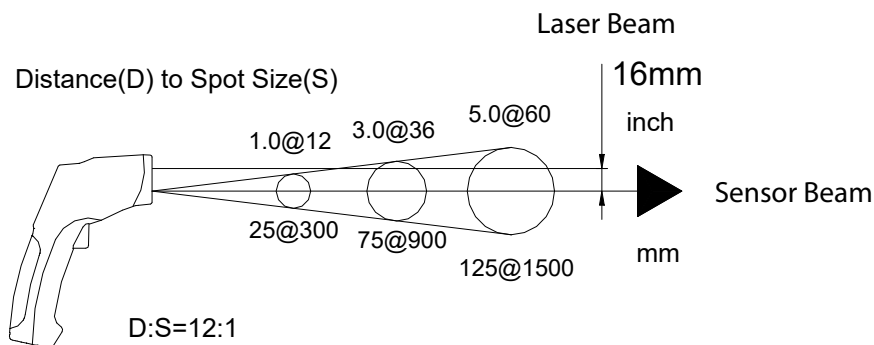

Fig. 1
As the distance (D) from the object increases, the spot size (S) of the area measured by the unit becomes larger. See: **Fig: 1**.